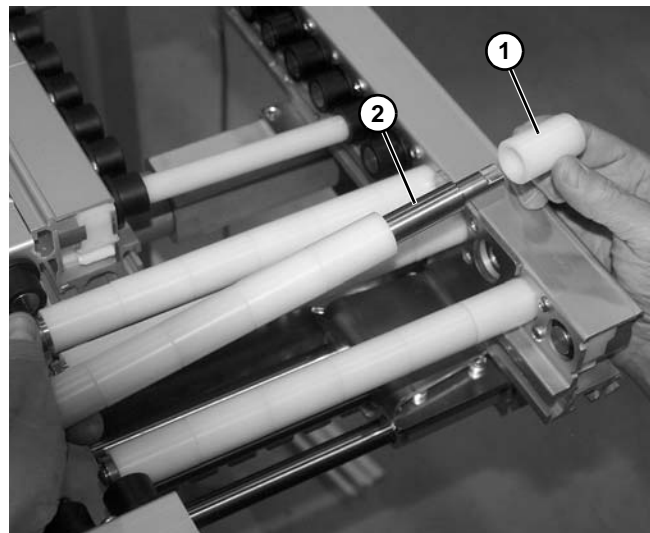

Figure 171
12. Continue removing all rollers (Figure 171, item 1) from rod (Figure 171, item 2).